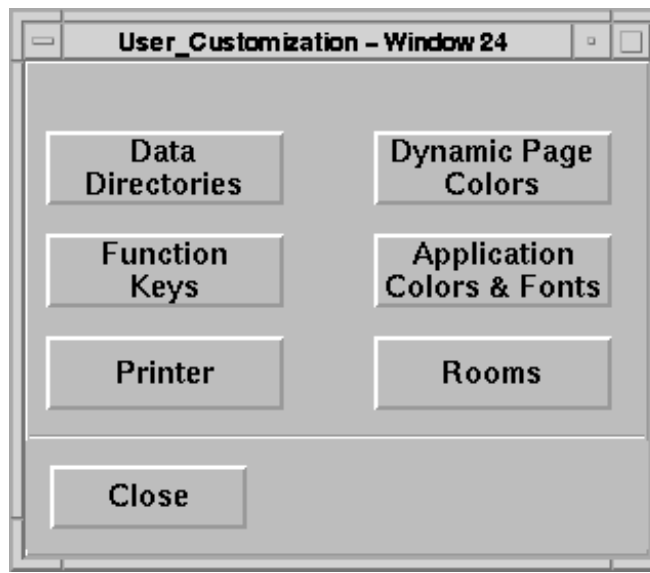

Figure 7.4-1. User Customization Window
Open the User Customization window (see Figure 7.4-1) by clicking **Tools...** on the Control window or Mini Control window. When the Tool Selection dialog box opens, select **User Customization** from the list of tools and click **OK**.
1. **Open the Application Colors and Fonts Customization window (See Figure 7.4.1-1).**